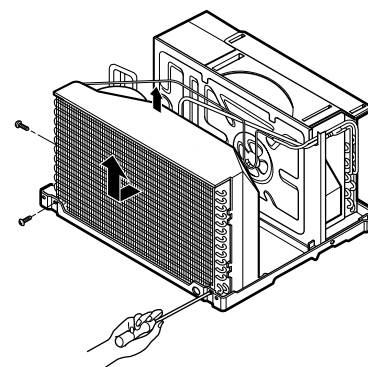

Figure 31
6. Re-install the component by referring to notes. (See Figure 31)